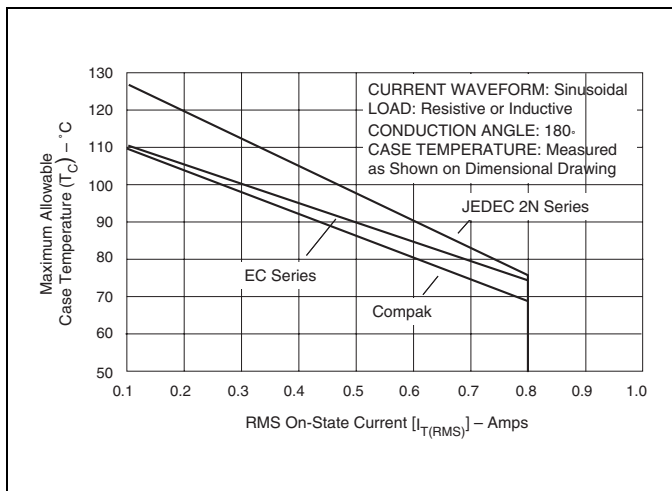
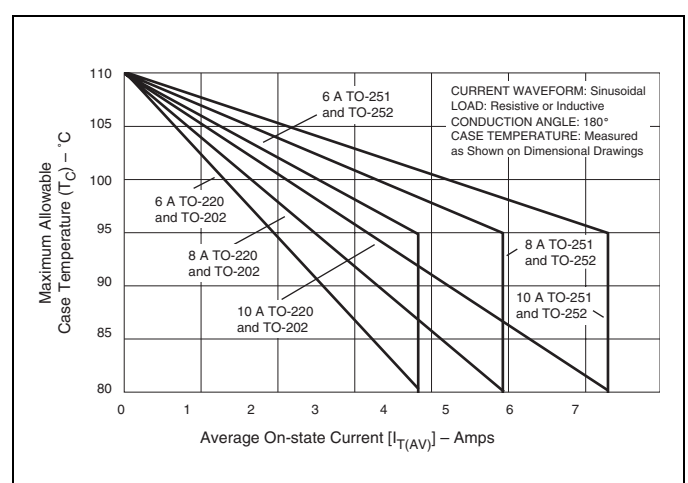
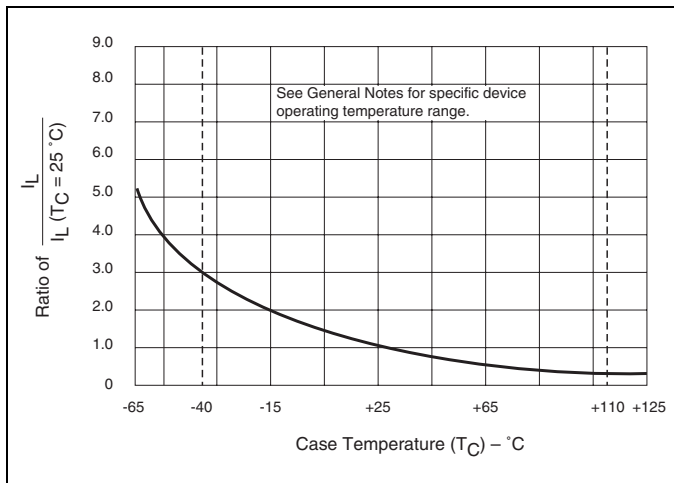

Figure E5.1 Maximum Allowable Case Temperature versus RMS On-state Current
Figure E5.9 Maximum Allowable Case Temperature versus Average On-state Current
Figure E5.18 Normalized DC Latching Current versus Case Temperature
- (1) See Figure E5.1 through Figure E5.9 for current ratings at specified operating temperatures.
- (13) See Figure E5.1 through Figure E5.9 for maximum allowable case temperature at maximum rated current.
- (14) $I_{GT} = 500 \mu A$ maximum at $T_C = -40^\circ C$ for T106 devices
- (15) $I_H = 10$ mA maximum at $T_C = -65^\circ C$ for 2N5064 Series and 2N6565 Series devices
- (16) $I_H = 6$ mA maximum at $T_C = -40^\circ C$ for T106 devices
- (17) Pulse Width $\leq 10 \mu$ s
- (18) $I_{GT} = 350 \mu A$ maximum at $T_C = -65^\circ C$ for 2N5064 Series and 2N6565 Series devices
- (19) Latching current can be higher than 20 mA for higher I_{GT} types. Also, latching current can be much higher at $-40^\circ C$. See Figure E5.18.
- (20) T_C or $T_L = T_J$ for test conditions in off state
- (21) I_{DRM} and $I_{RRM} = 50 \mu A$ for 2N5064 and 100 μA for 2N6565 at 125 °C
- (22) TO-92 devices specified at $-65^\circ C$ instead of $-40^\circ C$
- (23) $T_C = 110^\circ C$